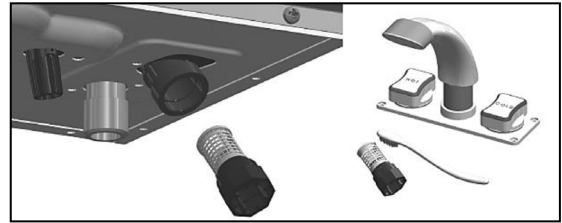

Figure 59 - Draining the Water Heater; Cleaning the Filter
5. Remove the cold water inlet filter. Then clean it with a toothbrush and clean running water. See Figure 59.